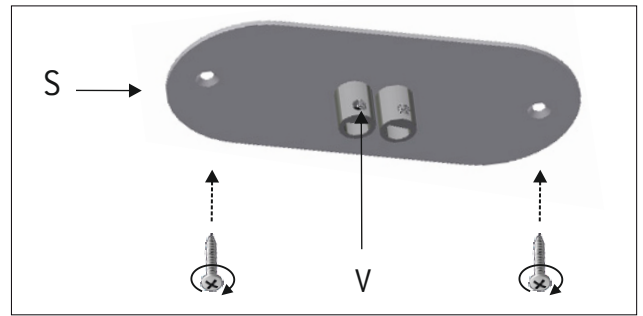

Figure 20
20 - Attach the mounting bracket (S) to the ceiling. Adjust the height of the electrical wires through the cable grippers (V). Figure 20.
20 - Fijar la sujeción (S) al techo y sujetar el cable roscando la espiga del sujetacables (V). Figure 20.